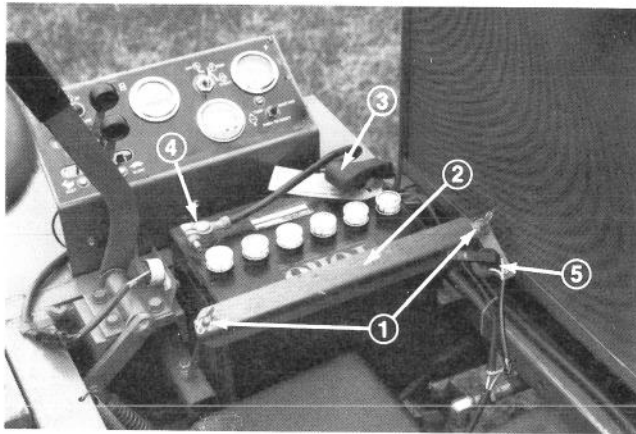

Figure 5
2. Remove two wing nuts and hold down strap that secure battery and seat switch in place (Fig. 5). Lift battery out of Chassis. Keep wing nuts and hold down strap in a safe place for later use.
1. Install battery and secure with hold down strap and wing nuts (Fig. 5). Remove tape over ends of each cable.
2. Slide the red, positive battery cable (Fig. 5) onto positive battery post and tighten nut securely.
3. Slide the black, negative battery cable (Fig. 5) onto negative battery post and tighten nut securely.
4. Coat both battery connections with either Grafo 112X (skin-over) grease, Toro Part No. 505-47, petroleum jelly or light grease to prevent corrosion and slide rubber boot over positive terminal (Fig. 5).